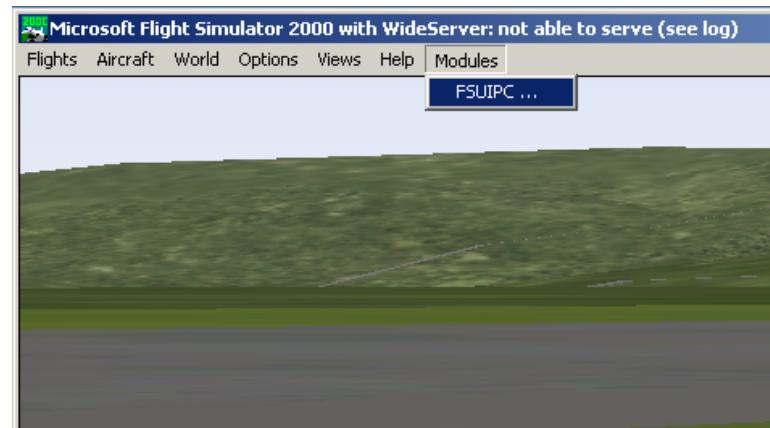

Figure 20: FSUIPC in the Modules pull-down menu
4. Check to make sure FSUIPC is installed by starting Flight Simulator and looking for FSUIPC in the Modules pull-down menu, as in Fig. 20.
5. Check if the WideFS server is running by looking at the Flight Simulator window title-bar - see Fig. 20.